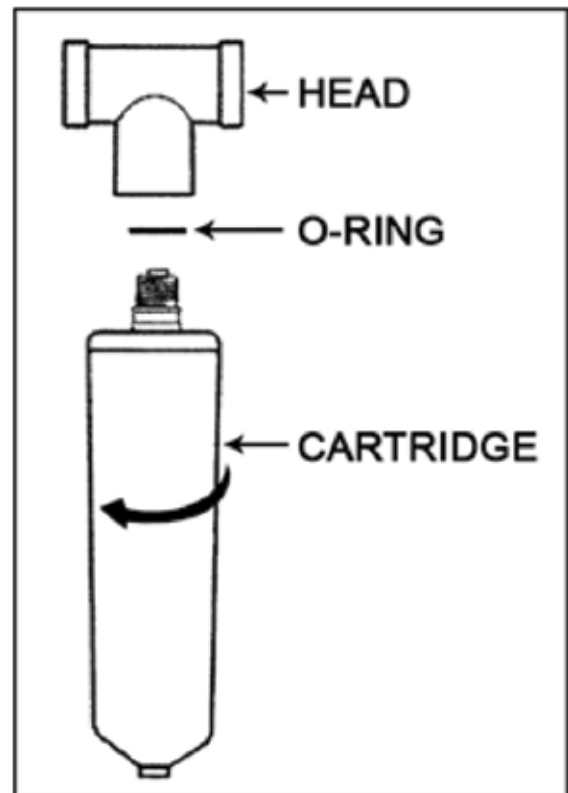

Figure 4
2. It is recommended that cartridges be replaced regularly, at no more than six-month intervals, to be assured of optimum performance. See “Figure 4”.